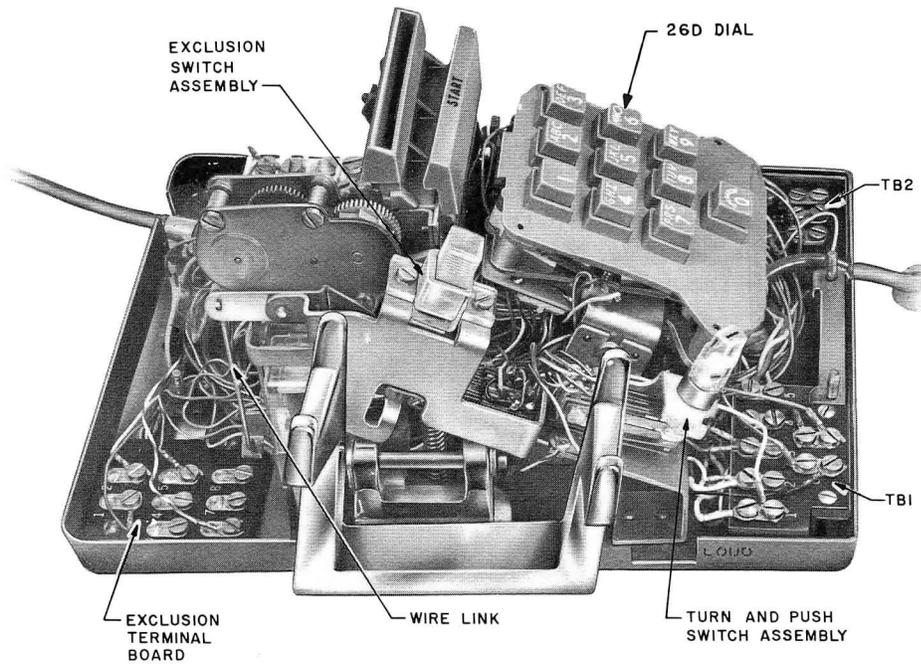

Fig. 4 — 1660-Type Telephone Set, Cover Removed
2.07 Early 1660- and 1663-type telephone sets use a 26B dial. Later sets use a 26D dial (Fig. 4). On the 26D dial, (S-BK) lead replaces the (BL-W) lead and is wired to the RR punching instead of R. A 26D dial can replace a 26B, but a 26B cannot replace a 26D.
- (1) Remove housing as shown in 3.02.
- (2) Disconnect spade tipped dial leads from network and TB1 (Fig. 4).
- (3) Lay set on side and remove two screws holding dial to base. Dial can then be lifted out.